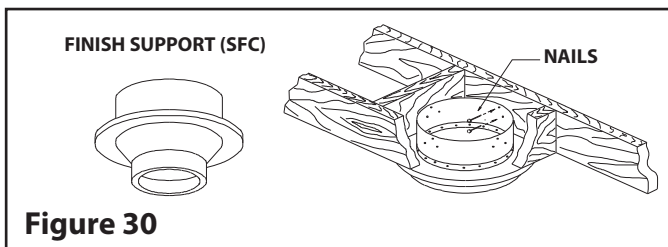

Figure 30
Step 3. From below push the finish support into the framed opening. Nail or screw the support to the framed box using (12) 3" spiral nails or #8 x 1 1/2" wood screws (see Figure 30).